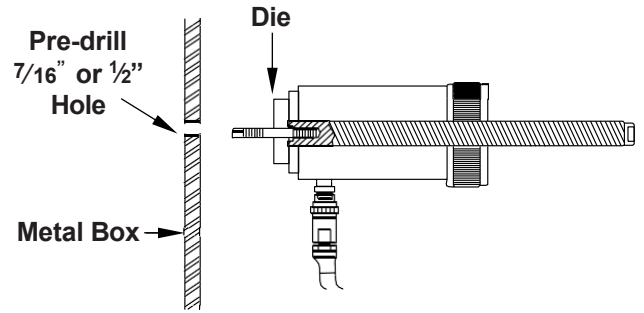

Figure 4
5. Insert the pull stud through the guide hole (Figure 4). Attach the $\frac{1}{2}$ " punch to the pull stud. Turn the punch until it is completely threaded onto the pull stud.